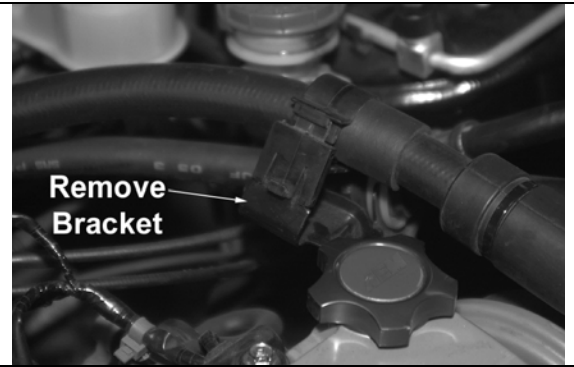

Fig. 5
- h) Next to the oil cap, unclip the P/S hose from its bracket. **(Fig. 5)**